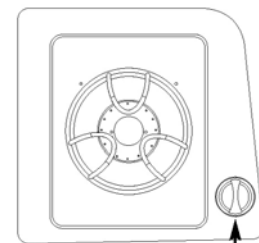

FIG. 10 Control Knob
1. Turn the side burner control knob to HIGH (see Fig. 10).